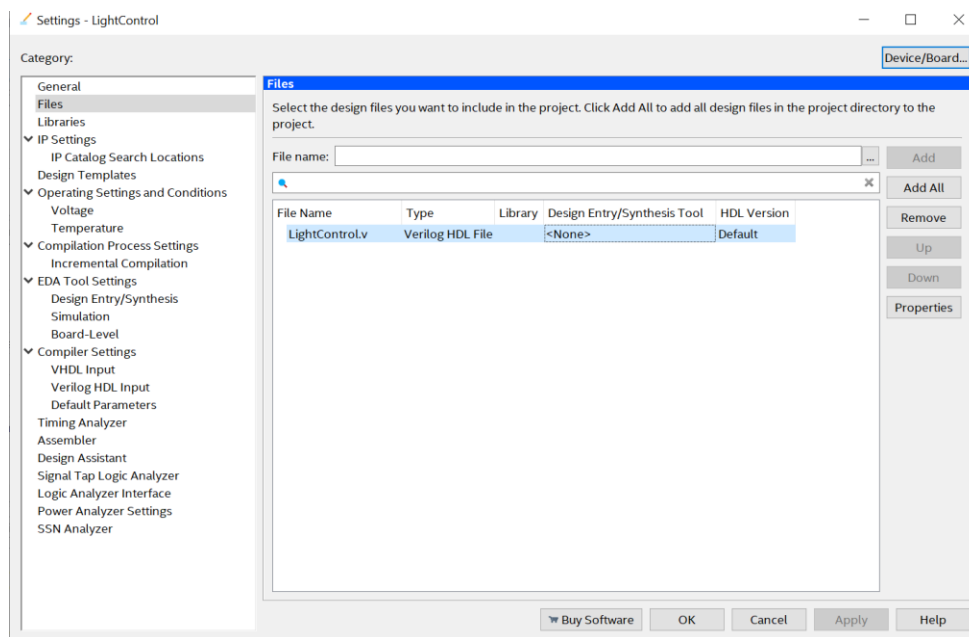

Figure 13. Settings Window
- In case the Verilog file was not successfully added to the current project, you may also click on **Project > Add Current File to Project** in the menu bar. To see the list of files already included in **LightControl**, select **Assignments > Settings**. A window, as shown in Figure 13, will be displayed. Under **Category**, select **Files**. Make sure that **LightControl.v** is included in the list. Similarly, adding more files to a current project may also be done here.